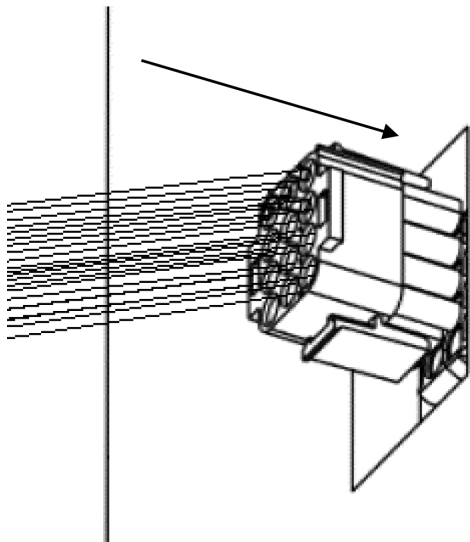

FIGURE 12 - ATTACH ECONOMIZER HARNESS
2. Plug in the wire harness provided with the economizer kit (see Figure 12).